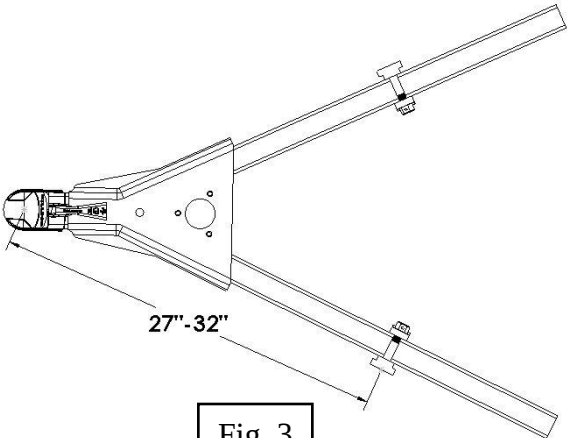
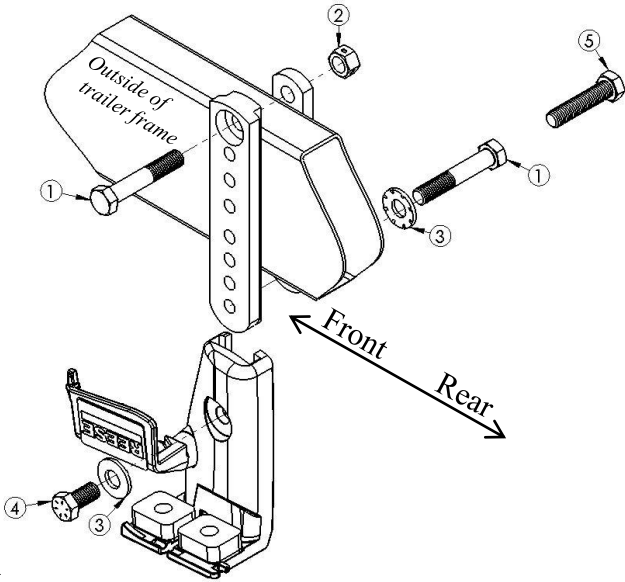

Fig. 3
Fig. 4
1. Use the tape measure to locate a point between 27-32" along the A-Frame from the center of the coupler. Mark this location with a pencil on both sides of the A-Frame (See Fig. 3)
2. Insert a 3-1/2" long 5/8" bolt (1) through the large hole in the **T-Bar** and single hole in the **Clamping Bar**.
3. Secure with a 5/8" lock nut (2) and hand tighten.
4. Slide the **T-Bar** and **Clamping Bar** over the frame where the mark is located from step 1. The **T-Bar** must be located on the outside of the A-Frame with the large hole facing outward (See Fig. 4). Allow 1" of clearance on either side of the **T-Bar**.
5. Insert a second 5/8" bolt *from the inside* through a conical washer and the **Clamping Bar** and thread into the **T-Bar**. Use the highest holes not obstructed by the bottom of the frame (See Fig. 4).